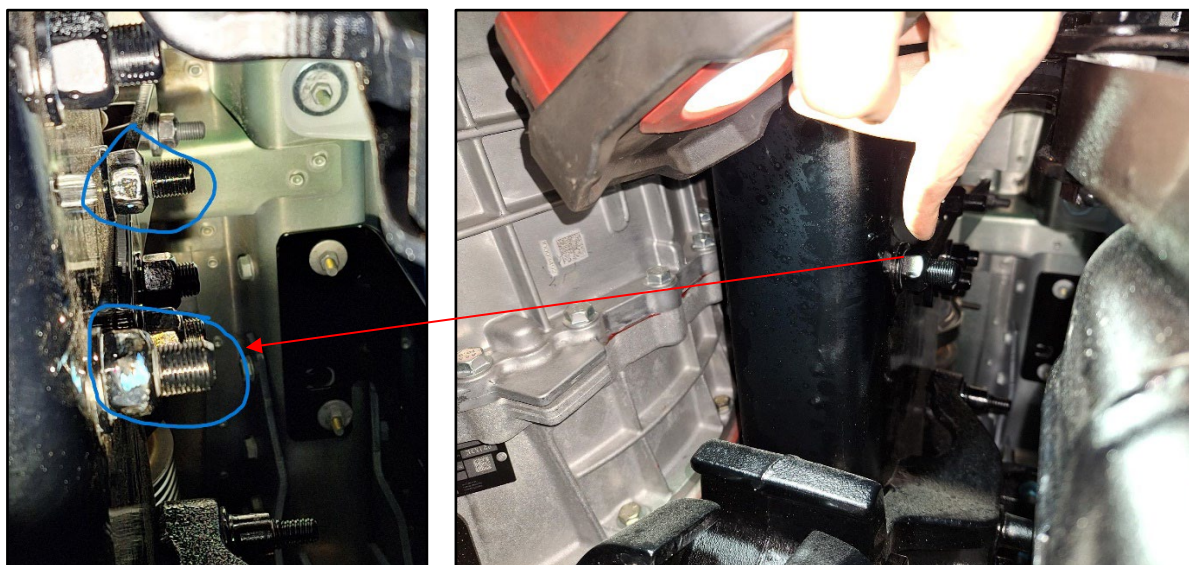

Fig. 1, Loose or Missing Rear Engine Mounting Bolts
6. Inspect the rear engine mount bolts for loose bolts. See **Fig. 1**.
3. Inspect the rear engine mount bolts for loose bolts. See **Fig. 1**.